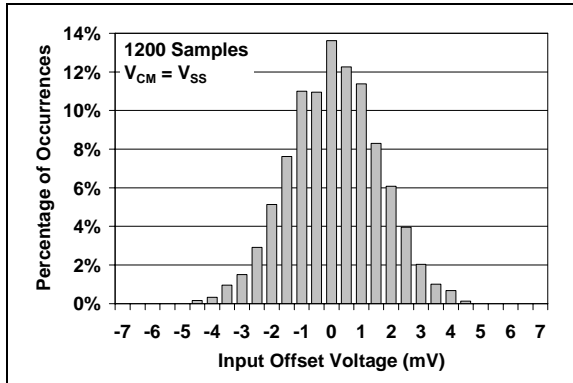

**FIGURE 1-3:** AC and DC Test Circuit for the Push-Pull Output Comparators.
**Electrical Specifications:** Unless otherwise indicated,  $V_{DD} = +1.6V$  to  $+5.5V$ ,  $V_{SS} = \text{GND}$ ,  $T_A = +25^{\circ}\text{C}$ ,  $V_{IN+} = V_{DD}/2$ ,  $V_{IN-} = V_{SS}$ , and  $R_L = 100\text{ k}\Omega$  to  $V_{DD}/2$  (Refer to Figure 1-3).
**Electrical Specifications:** Unless otherwise indicated,  $V_{DD} = +1.6V$  to  $+5.5V$ ,  $V_{SS} = GND$ ,  $T_A = +25^\circ C$ ,  $V_{IN+} = V_{DD}/2$ ,  $V_{IN-} = V_{SS}$ , and  $R_L = 100\text{ k}\Omega$  to  $V_{DD}/2$  (Refer to Figure 1-3).
**Electrical Specifications:** Unless otherwise indicated,  $V_{DD} = +1.6V$  to  $+5.5V$ ,  $V_{SS} = GND$ ,  $T_A = +25^\circ C$ ,  $V_{IN+} = V_{DD}/2$ , Step = 200 mV, Overdrive = 100 mV, and  $C_L = 36\text{ pF}$  (Refer to Figure 1-2 and Figure 1-3).